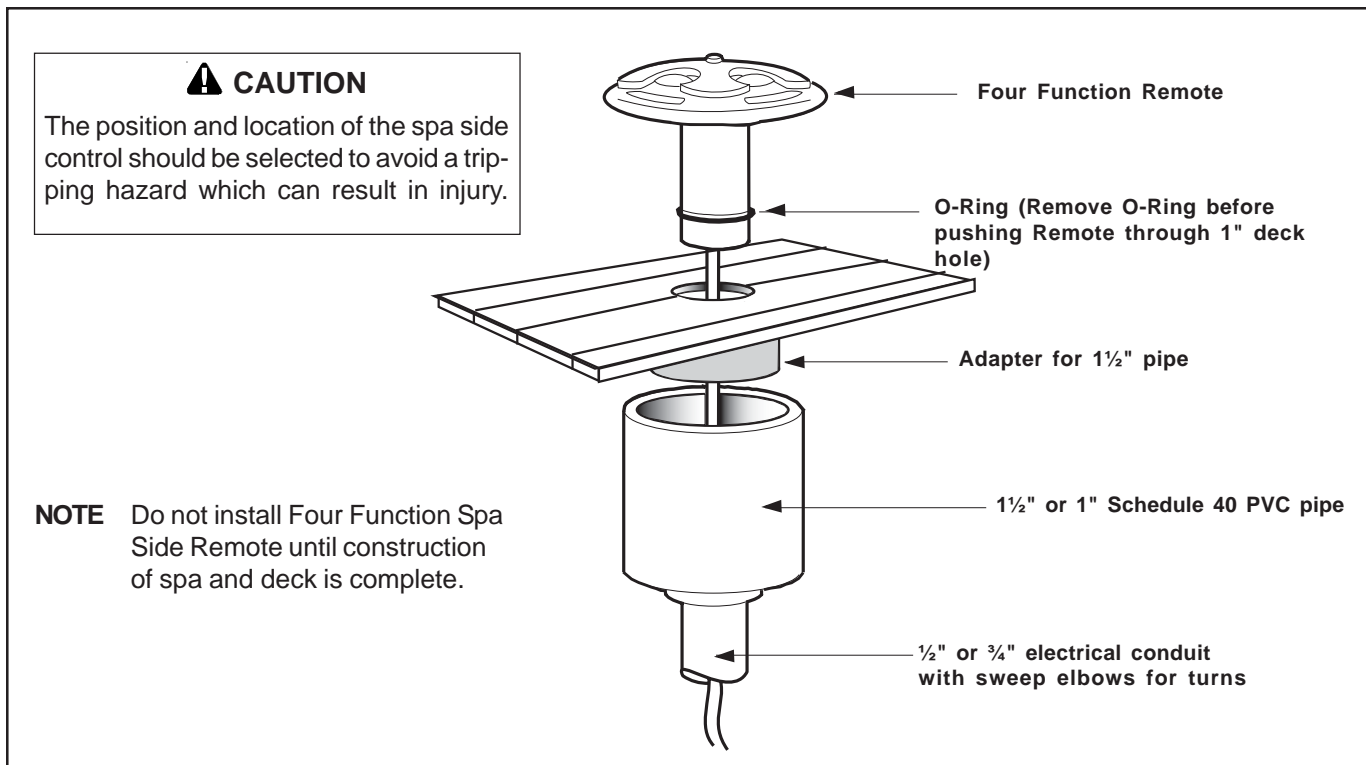

Figure 2. Spa Side Remote Installation for Spa Shell/Wood Deck
1. Cut a 1" diameter hole in the spa shell or deck at the mounting location that will be convenient to the pool/spa owner, see Figure 2. The remote should be installed within arm's reach of the water. This hole will house the Four Function Remote.
3. Feed a snake or similar tool from the Power Center through conduit to the remote mounting location. Feed the Four Function Remote cable through the 1" hole in the deck or spa, and then through the 1 1/2" to 1" adapter. Remove the O-Ring from the remote, then push the remote through the hole in the deck (see Fig. 2). Connect the remote cable to the snake and use the snake to pull the cable through the conduit to the Power Center.